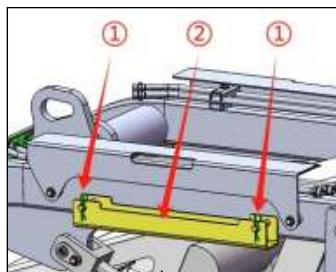

图1
Step 1: Lower the lifting arm remove the R-pin ①, take out the safety brace ② (as shown in Figure 1), and then insert the R-pin back into its original position.